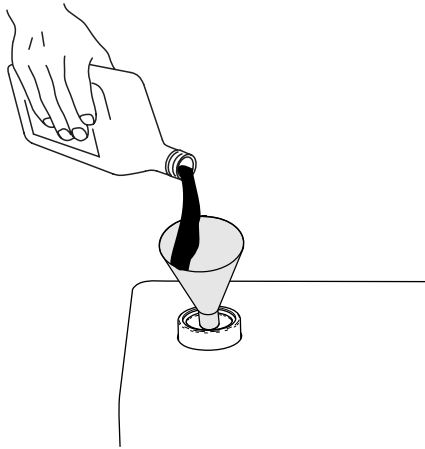

Figure 123
7. If the fluid level is below the lower mark on the dipstick, add the specified hydraulic fluid into the tank (Figure 123). Repeat steps 4 through 6 until the fluid level appears between the 2 marks on the dipstick.